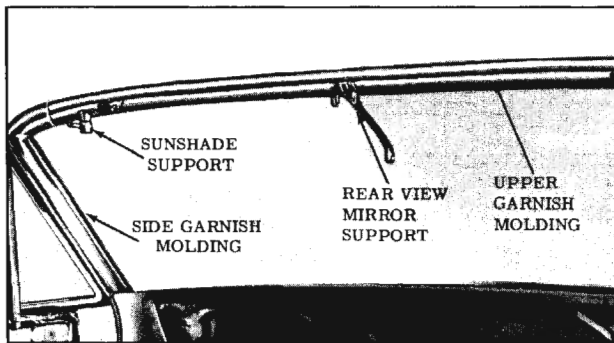
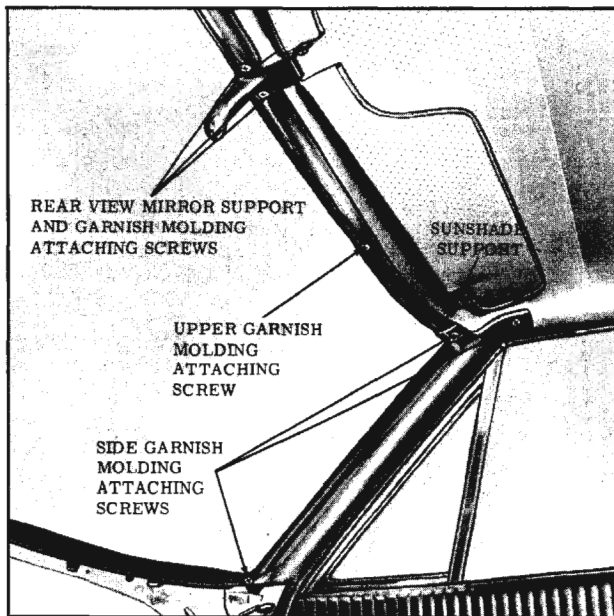

Fig. 16-1 Garnish Moldings and Supports
Fig. 16-2 Garnish Moldings and Supports
#### Removal and Installation (Figs. 16-1 and 16-2)
3. To install, reverse removal procedure. (Fig. 16-1 and Fig. 16-2)